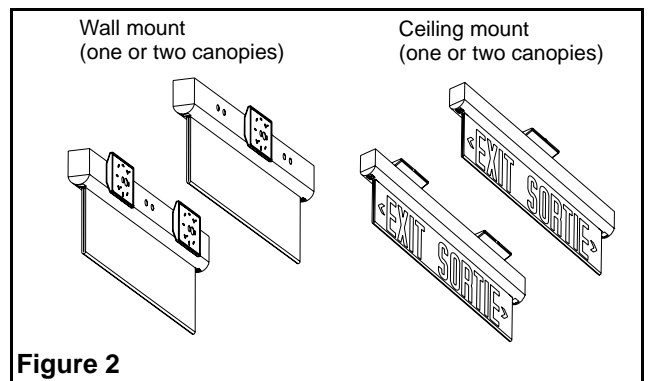

Figure 2
3. The exit sign can be wall mounted or ceiling mounted. There are two canopy kits provided with the unit. Install one for regular use, or two (at 19" apart) for more stability if needed (see fig. 2).
4. Remove the proper knockout in the canopy plate to mount to the junction box - check the orientation of the back box (see fig. 2).